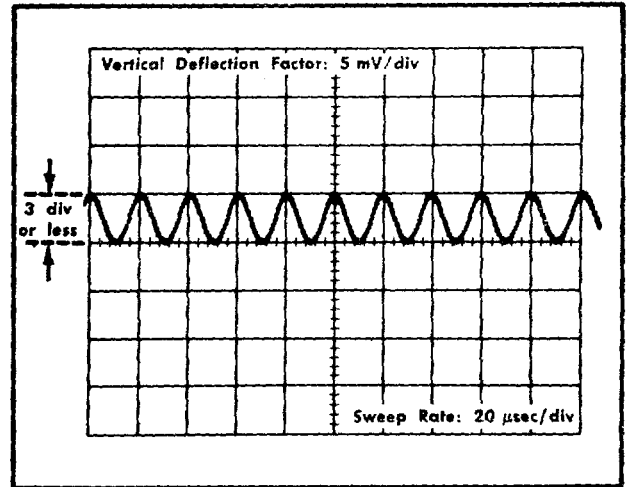

Fig. 5-48. Checking input crosstalk to B side of amplifier when signal is applied to input A.
e. Check that the amplitude of the display is 3 div or less (see Fig. 5-48). This corresponds to the  $\leq 5\%$  input crosstalk requirement.